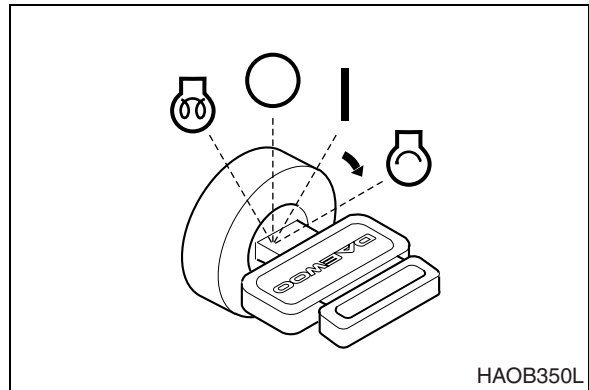

Figure 10
5. After the preheat indicator light turns "ON," immediately turn starter switch to "I" (START) position (Figure 10). Engine should start in approximately 5 seconds.